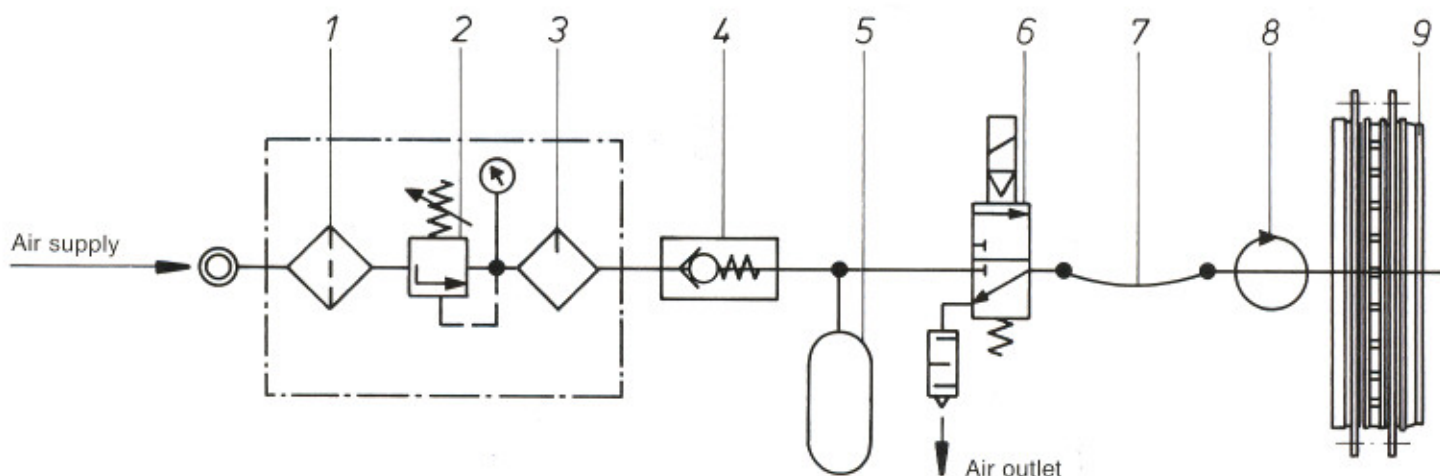

fig. 12
In order to ensure at least trouble free operation of the Lutex® C-B-C a switching device as shown in fig. 12 is required.
The 3/2 way valve (6) or the press safety valve (6) should be mounted between the air vessel (5) and the flexible hose (7) (see fig. 12). In order to avoid distortion of the tube it should be at least 300 mm long. If shorter operating times are required the 3/2 way valve (6) or the press safety valve (6) may be connected directly to the rotor (8). Care needs to be taken to ensure correct and airtight fitting.